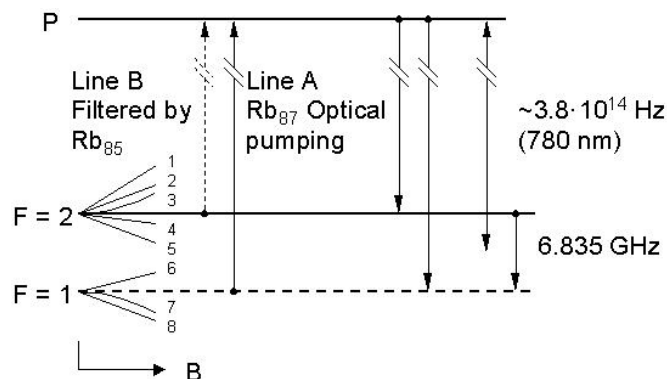

Figure 1: Energy levels and transitions in Rb87 atoms during SRO-100 operation
In order to detect the clock transition between these two levels, the atoms need to be manipulated in such a way that most of them occur in only one level. This is done by optical pumping via a higher lying state (P). Figure 1 visualizes the atomic energy levels and transitions involved in the optical pumping process.